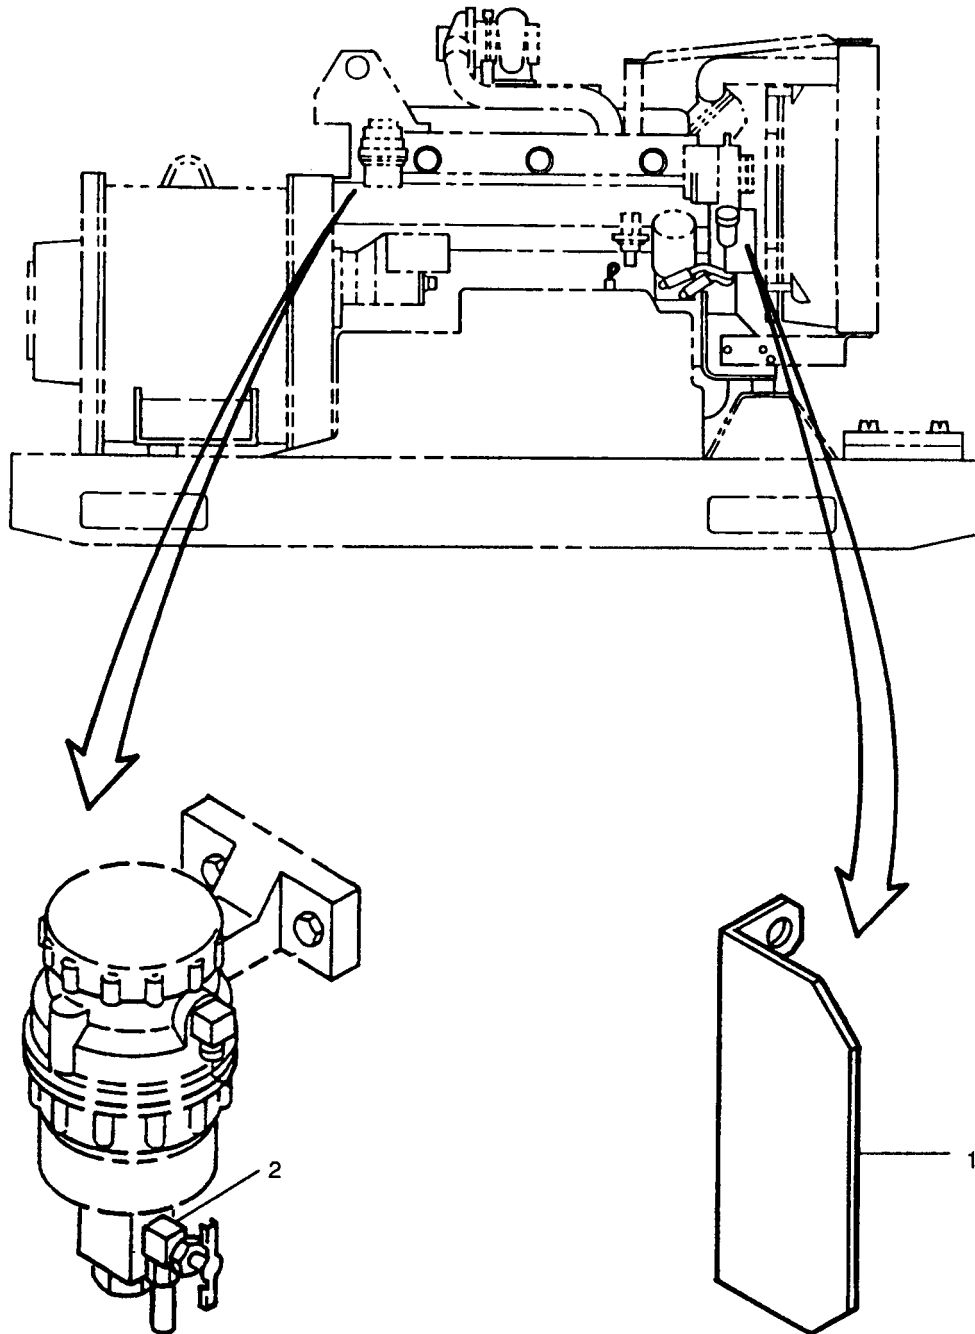

FIGURE 3-18. Engine Components (Right Side)
- (2) Alternator guard (1, FIGURE 3-18). Use hardware from old engine.
- (3) Fuel filter drain valve assembly (2, FIGURE 3-18).